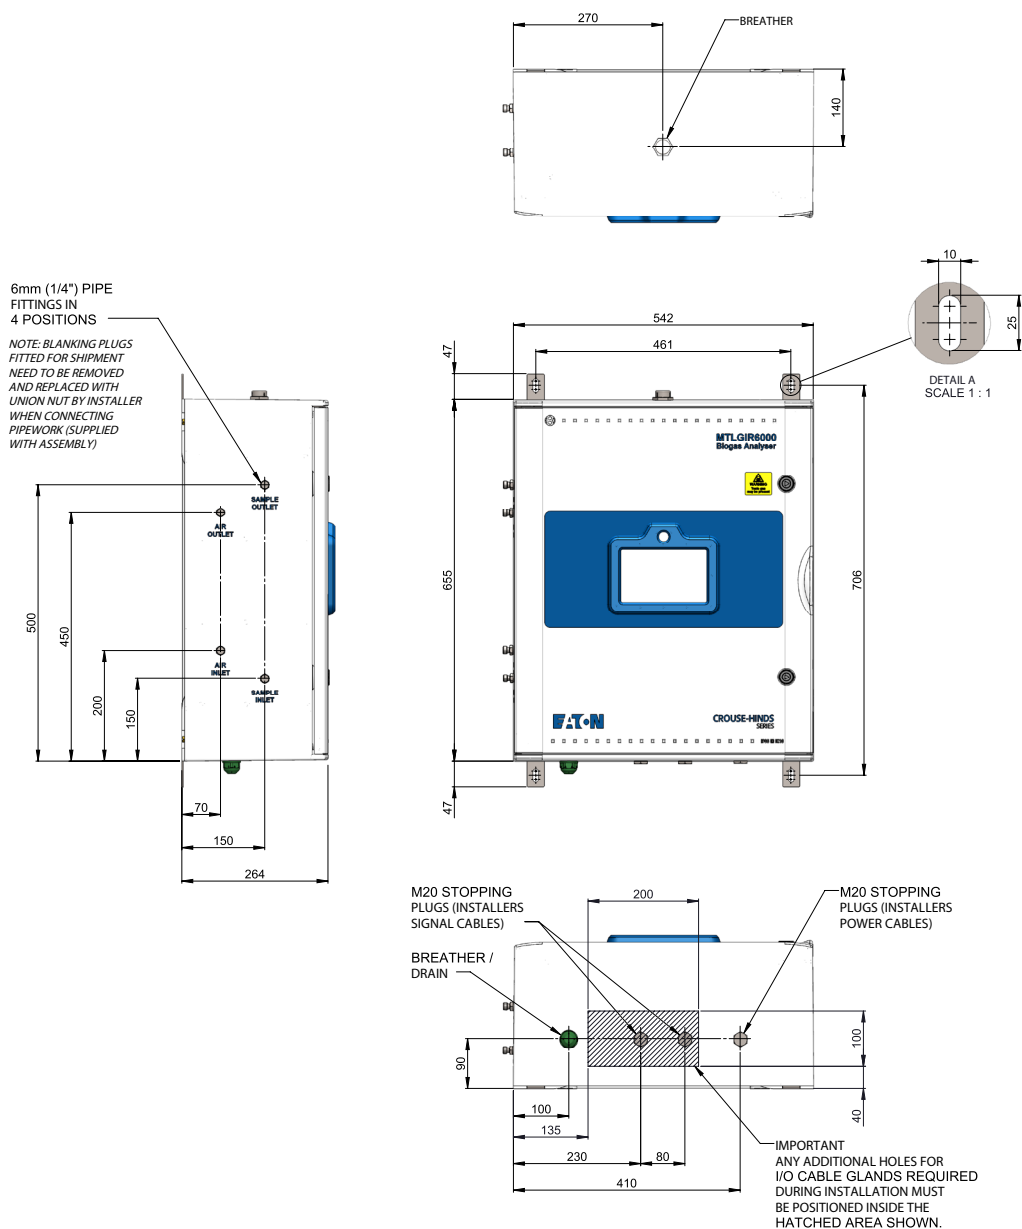

Figure 3.3 - External dimensions including mounting-hole positions
- e) Prepare holes in the mounting surface, on the centres shown in Figure 3.3, to accept suitable screws/bolts for mounting.
- Prepare holes in the mounting surface, on the centres shown in Figure 3.3, to accept suitable screws/bolts for mounting.